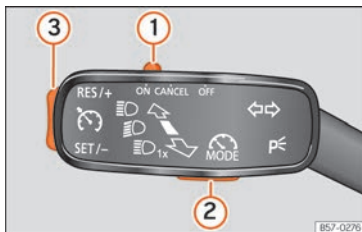

Fig. 229 On the left of the steering column: control and buttons to operate the speed limiter.
» Fig. 229 ① of the turn signal lever into position **CANCEL** or the third lever into pressure point **CANCEL** or press button ② on any lever. »